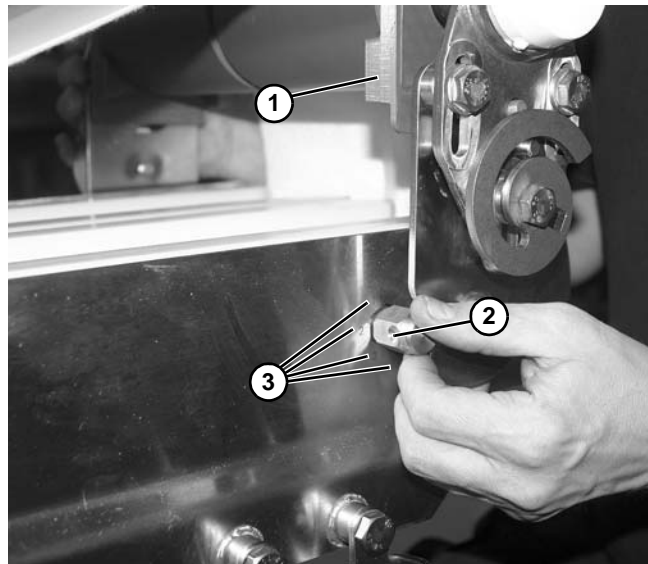

Figure 116
2. Rotate idler tail (**Figure 116, item 1**) up as shown. Pull out and rotate dimpled end of hex bar (**Figure 116, item 2**) into one of four locations (**Figure 116, item 3**) marked on the side of conveyor frame.